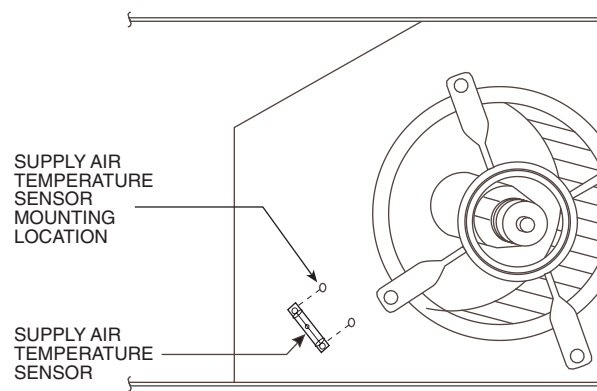

Fig. 39 — Supply Air Sensor Placement
12. Mount the supply air temperature sensor to the lower left portion of the indoor blower housing with the two (2) screws provided (see Fig. 39). Connect the violet and pink wires to the corresponding connections on the supply air temperature sensor. Replace the indoor fan motor access panel.